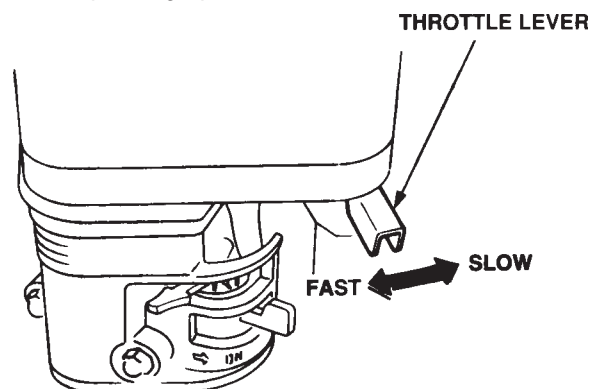

Figure 23. Throttle Lever
7. Place the **throttle lever** (Figure 23) halfway between **fast** and **slow** for starting. All sawing is done at full throttle. The engine governor speed is factory set to ensure optimum blade operating speeds.
- Place the throttle lever (Figure 23) in the slow position, and listen for the engine speed to decrease.